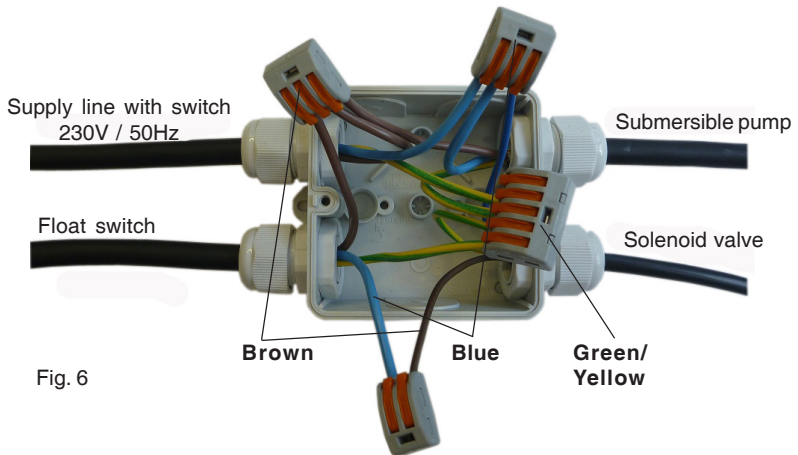

Fig. 6
- Connecting the float switch as shown in Fig. 6